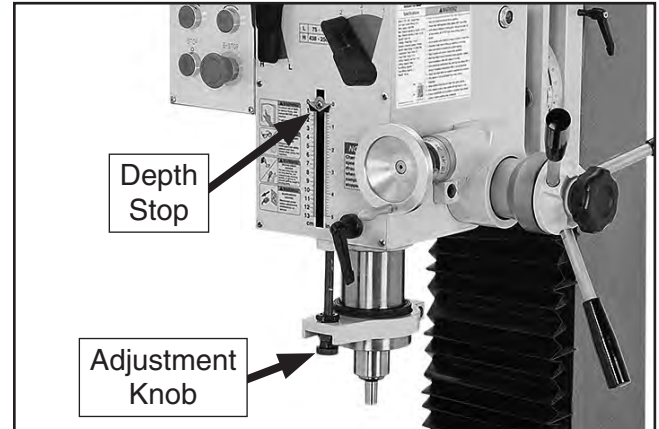

Figure 27. Locations of depth stop adjustment knob and depth stop.
6. Rotate depth stop adjustment knob (see **Figure 27**) to adjust depth stop for depth of hole.